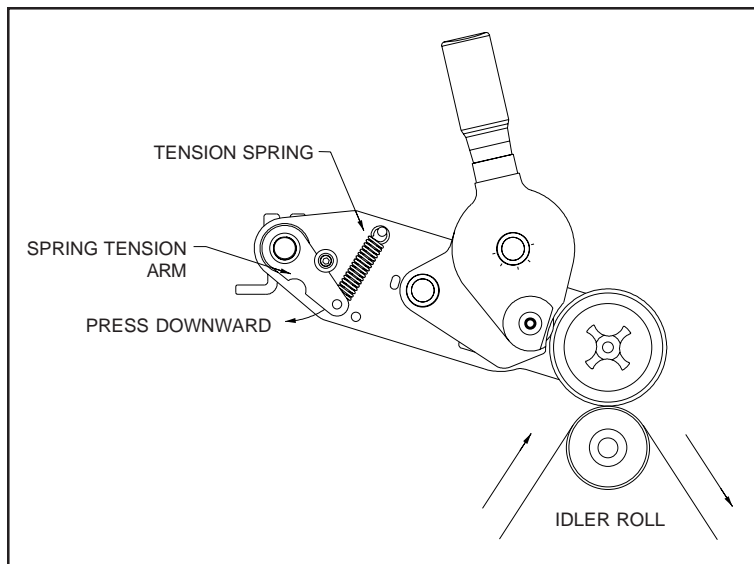

FIGURE 31
**3 -Press down lightly on the spring tension arm to extend the tension spring slightly. (Figure 31) While holding pressure on the arm, tighten the mounting bracket clamping screw.**